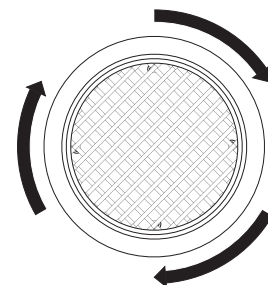

Fig. 2
**STEP 2:** While holding the register with the blades at a 45 degree angle insert into duct opening. Then rotate the register until it locks into place (fig. 2). The open side of the mounting hooks will fit around the adjusting screw as shown in the close up. The hooks and adjusting screw must align for proper installation.